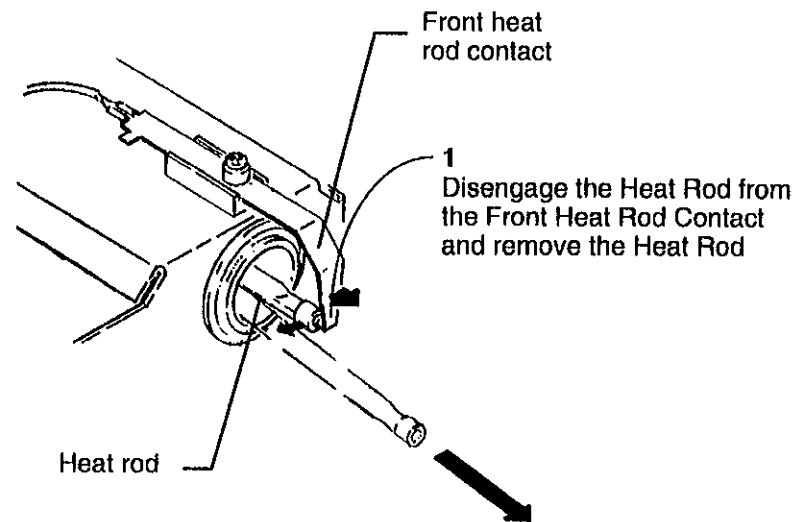

Figure 1. Removing the Heat Rod
- 2 (Figure 1). Remove the Heat Rod.